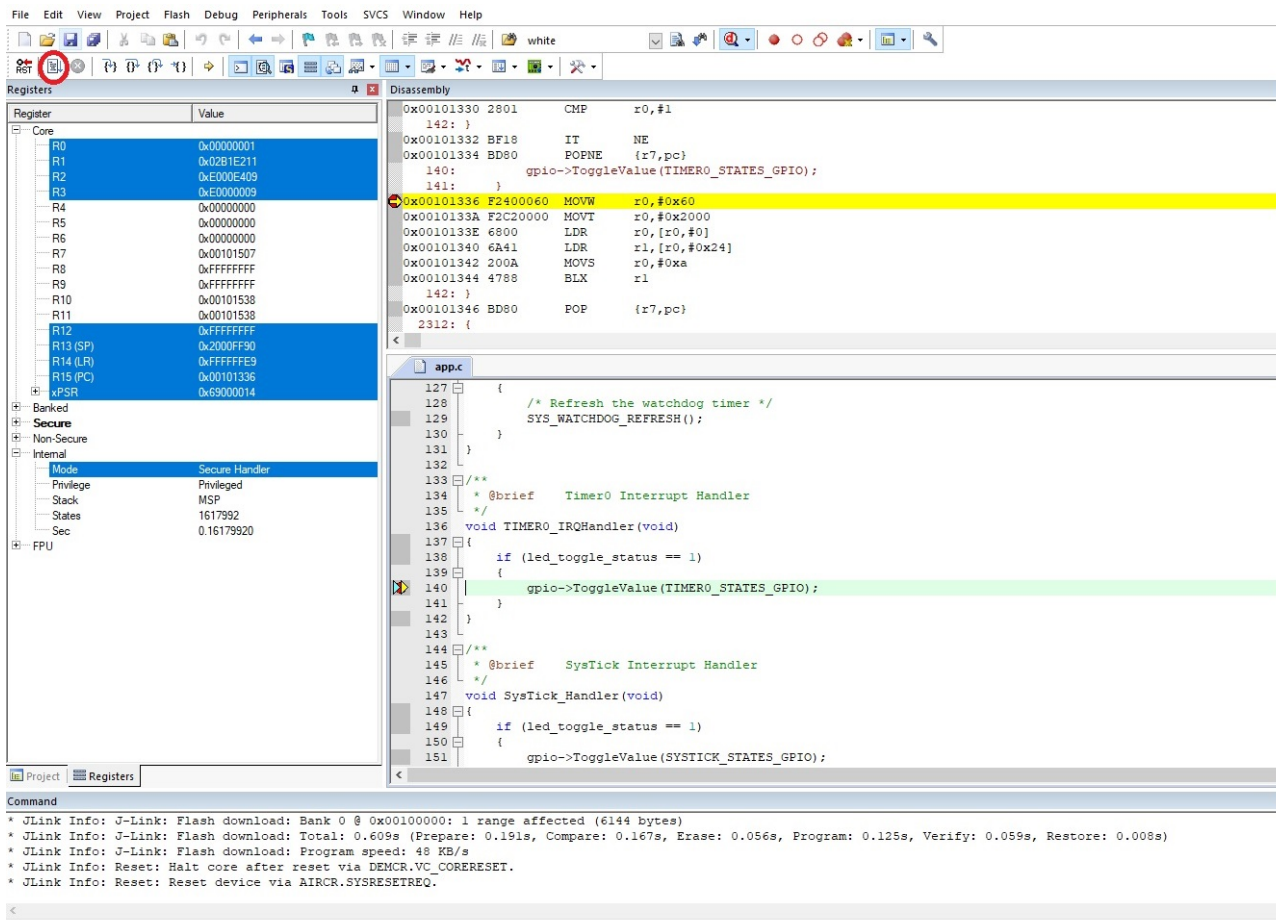

Figure 30. Debug Session in the Keil μ Vision IDE
- The application runs up to the first breakpoint in main, as shown in the "Debug Session in the Keil μ Vision IDE" figure (Figure 30). You can press F11 multiple times to step through the code and observe that the LED changes its state when the application executes the line `gpio->ToggleValue(TIMER0_STATES_GPIO);`.